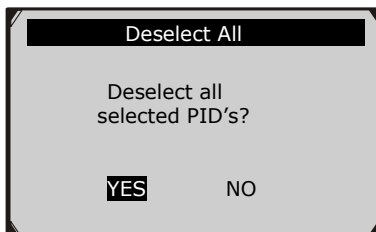

Figure 5.18
- A message comes up to ask for your confirmation.(Figure 5.18)